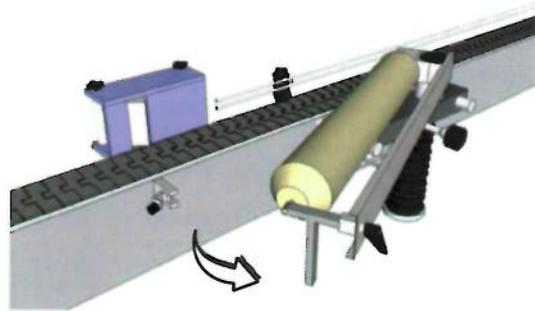

fig.3
- open the worm screw casing (fig.3)